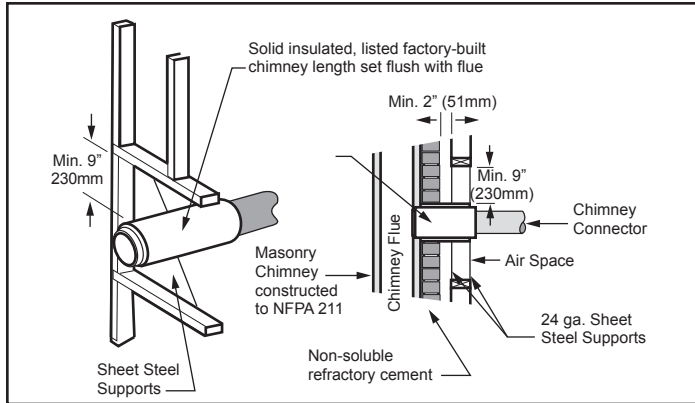

Figure 5.6 - Wall Pass-through using factory-built insulated chimney section.
If the chimney connector must pass through a combustible wall to reach the chimney, follow the recommendations for Wall Pass-Through construction in Figures 5.6 thru 5.9 from this section.
- Using a section of double-wall chimney with a 9" (229 mm) clearance to combustibles. (Figure 5.6)